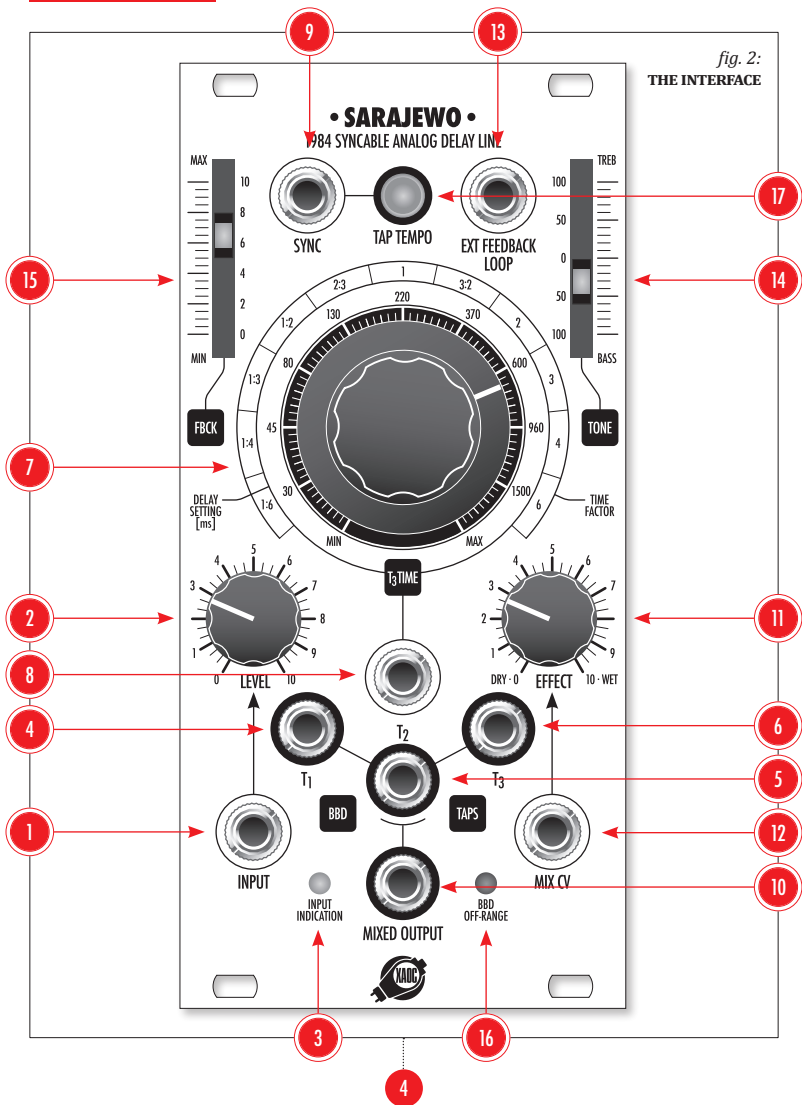

fig. 2:
The front panel of Sarajewo is shown in fig. 2. The signal you wish to process should be patched to the **INPUT** jack ①. The **LEVEL** knob ② above controls the amplitude with the **INPUT INDICATION** multicolor LED ③ providing visual feedback. The outputs from individual taps are labeled **T₁**, **T₂**, and **T₃**, respectively: ④, ⑤, ⑥. The central large **T₃ TIME** dial ⑦ allows for precise setting of the overall delay time of the three stages, from about 20ms to over 1.5s. The delay time can be modulated